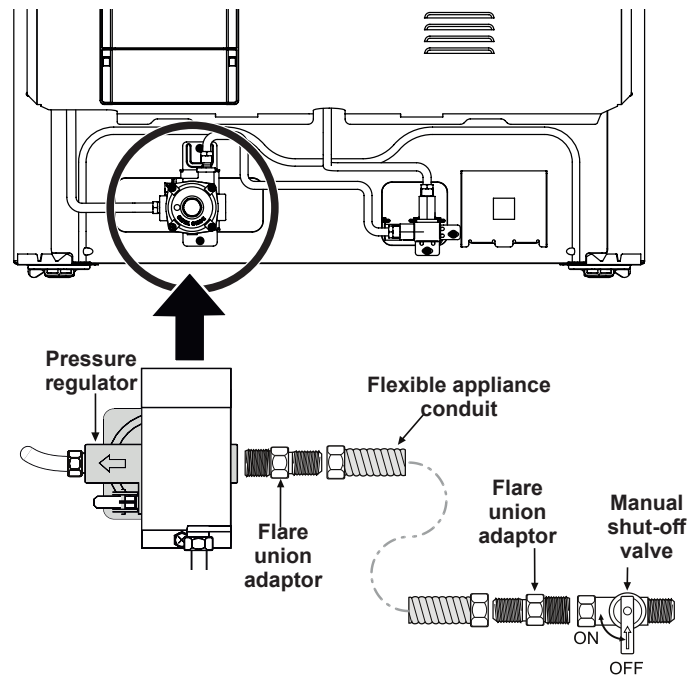

Fig. 8 - gas supply connections
- a. Install an external manual gas shut-off valve to gas supply line in an accessible location outside of range. Be sure you know where and how to shut off the gas supply to the range (See Fig. 8).
- b. Install 1/2" flare union adaptor to gas pressure regulator using no more than 15ft./lbs. of torque (Refer to Fig. 8).
- d. Install flare union adaptor to external manual shut-off valve (See Fig. 8).
- e. Attach flexible appliance conduit to flare union adaptor on shut-off valve (See Fig. 8).